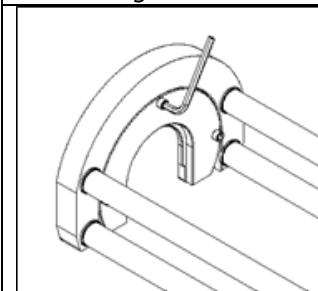

Figure 23 – Remove Adaptor
- 5.3.6 If the Pulling Shoe Insert Adaptor has not been removed from the Pulling Shoe, remove it now. Bearing assembly installation cannot be completed when the Pulling Shoe Insert Adaptor is attached to the Pulling Shoe (Figure 23).